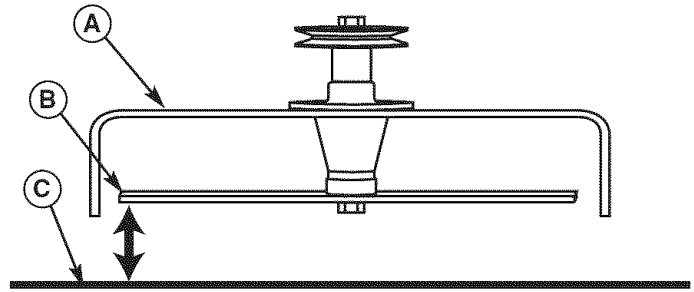

Figure 37. Measure Blade Tips to Ground
5. Measure the distance between the tips of the outside blades and the ground (Figures 37 & 38). If there is more than 1/8" (3mm) difference between the measurements on each side, proceed to step 6. If the difference is 1/8" (3mm) or less, proceed to Front To Back Leveling.